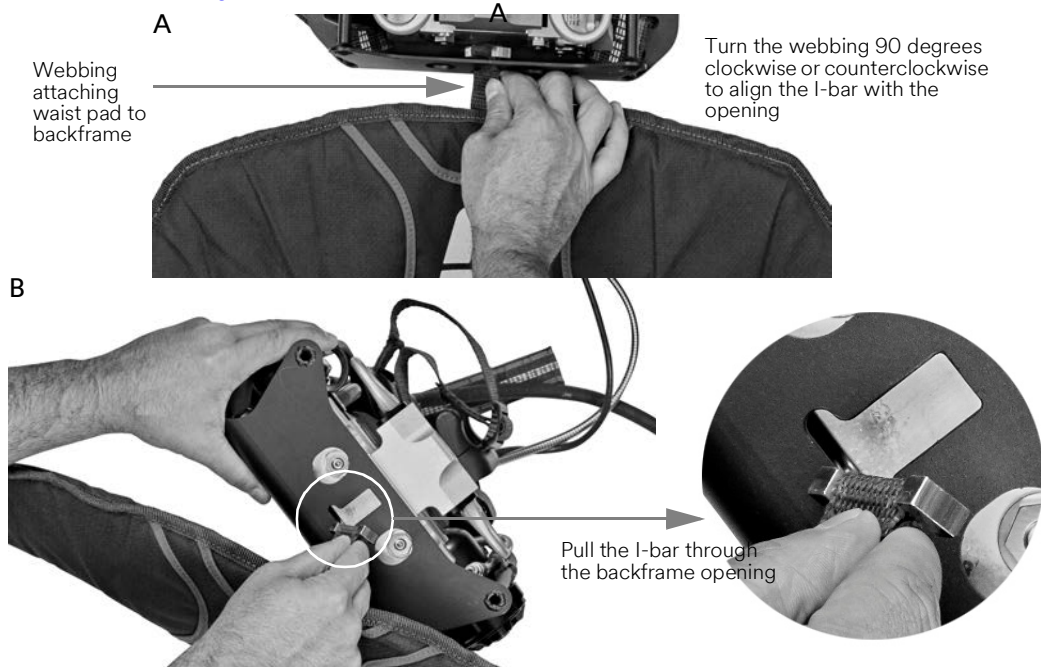

Figure 2-14 A) Turning the webbing 90 degrees to align the metal I-bar. B) Pulling out the I-bar.
- 4 At the bottom of the backframe, locate the webbing attaching the waist pad to the backframe. Turn the webbing 90 degrees clockwise or counterclockwise to align the metal I-bar with the backframe opening and pull it out. See pictures A and B in Figure 2-14.